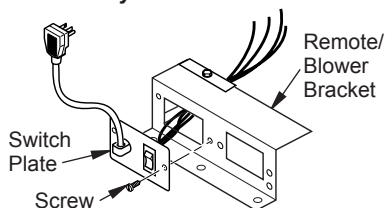

**Figure 17 - Installing Blower Bracket Assembly (Remote-Ready Unit Shown)**
3. Note the wire locations on back of AUTO/OFF/ON switch. The terminals on back of switch are numbered 1, 2, and 3. Carefully remove red wire from terminal 3 and blue wire from terminal 1. Black wire can remain on middle terminal 2 (see Figure 17).
5. In top of the fireplace cabinet, locate the four mounting holes on the outer casing. Align these four holes with those on the blower bracket assembly. Attach blower bracket assembly to the outer casing with 4 #10 screws provided (see Figure 17).
7. Insert the 4 wire harnesses from behind the remote/blower bracket through hole in rear of bracket with bushing and through the left rectangular hole to front of fireplace (see Figure 17).
9. Install the switch plate on the remote/blower bracket with 2 #10 screws provided (see Figure 19). Route power cord out of the cabinet by inserting it through the bushing on the outer casing (see Figure 17). Plug fan kit into 120-Volt grounded power supply and test operation. *Note:* When switch is in the AUTO position, the fan will start after the fireplace has run for a few moments. The fan will continue to run for several moments after the fireplace has been turned off. When switch is in the ON position, the fan will run until turned to OFF.